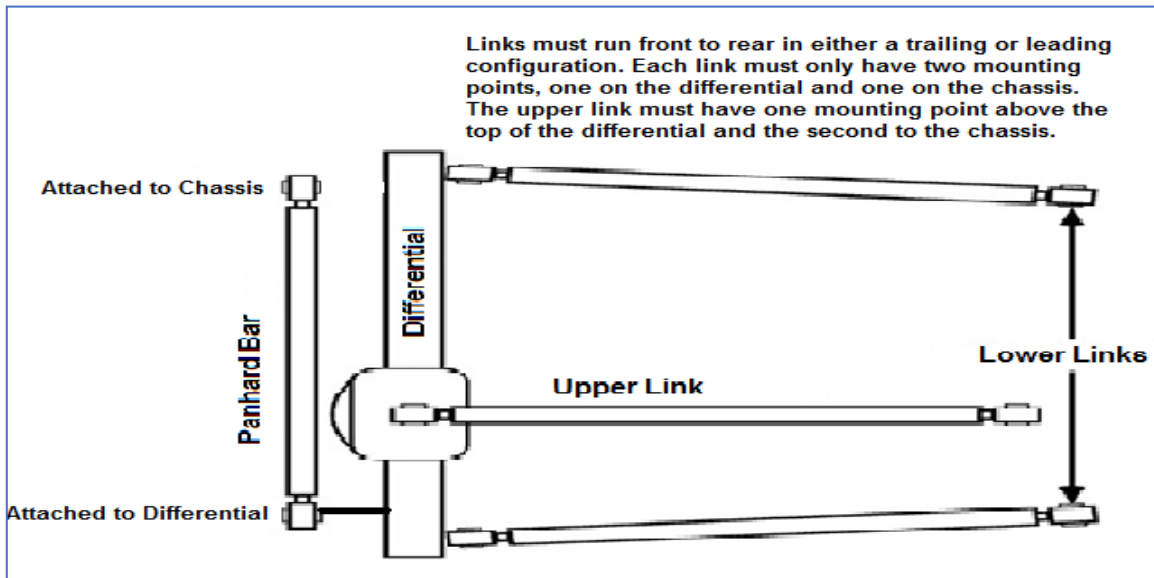

Figure 18
- 25.4** The only rear suspension allowed is the three-link design which consists of two lower control-arms and one upper pull bar. These control the up and down movement of rear end (*Figure 18*). One Panhard bar or J-Bar is allowed for the side-to-side location of the rear end. No sliding Panhard bar allowed.